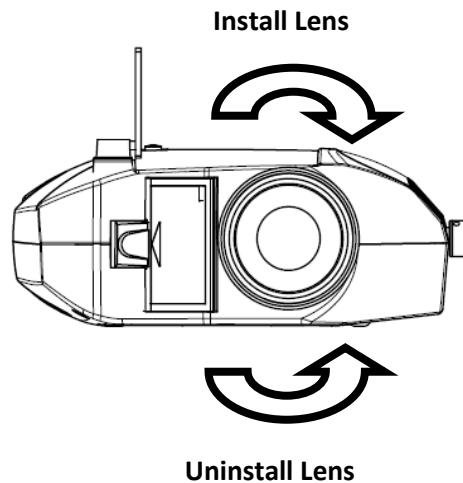

Figure 18 - MS-75 objective lens.
The standard objective lens is installed by aligning the thread from the OBJECTIVE lens with the instrument's lens mount and rotating clockwise while grasping the rubber ring toward the rear of the lens (see **Figure 18**). The thread should offer minimum resistance during installation.
1. Grasping the rear rubber ring (see **Figure 18**) turn the lens counter-clock-wise until the lens separates from the lens mount.
1. Grasping the rear rubber ring (see **Figure 18**) turn the lens clock-wise until the lens seats on the lens mount.